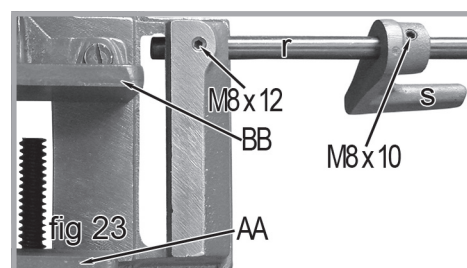

fig 23
3. Push the work stop rod into the hole located below this M8 x 12 set screw. (See a view looking down at the vise assembly, fig 23)